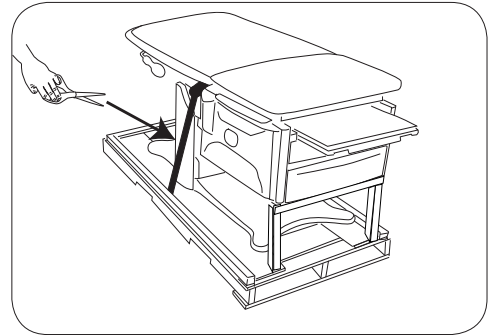

Figure 4. Cut Shipping Strap
- Cut the shipping strap, and discard strap and foam tube (Figure 4).